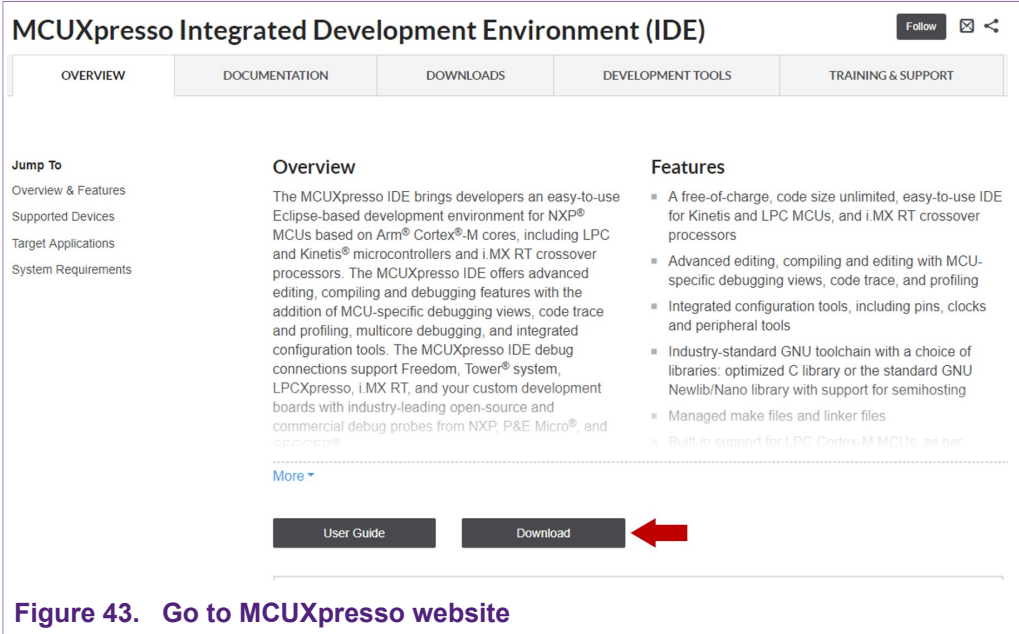

Figure 43. Go to MCUXpresso website
- 1. Go to MCUXpresso and click the download button as indicated in Figure 43: